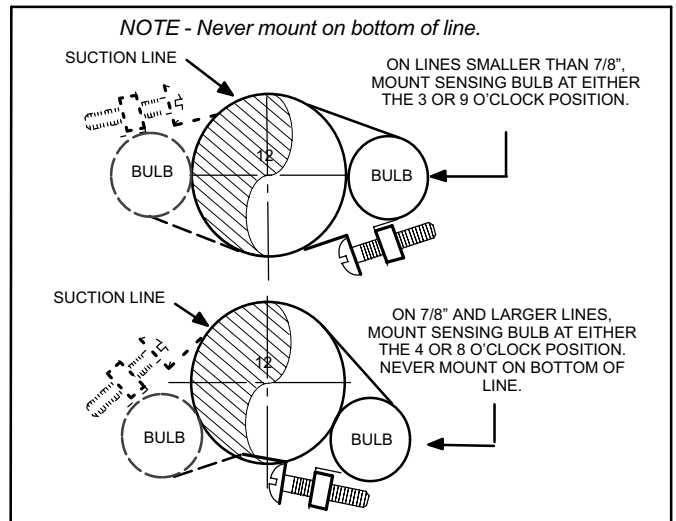

Figure 11. TXV Sensing Bulb Installation
5. Attach the sensing bulb of the TXV in the proper orientation as illustrated in figure 11 to the suction line using the clamp and screws provided in the TXV kit.